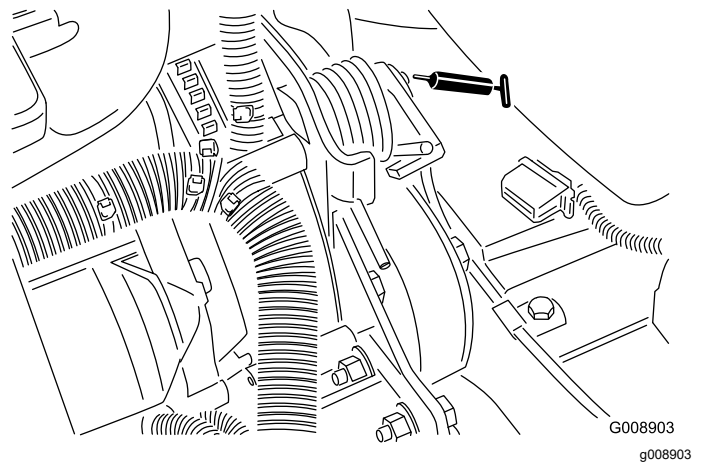

**Figure 41**
- Mow/transport slide (Figure 41)